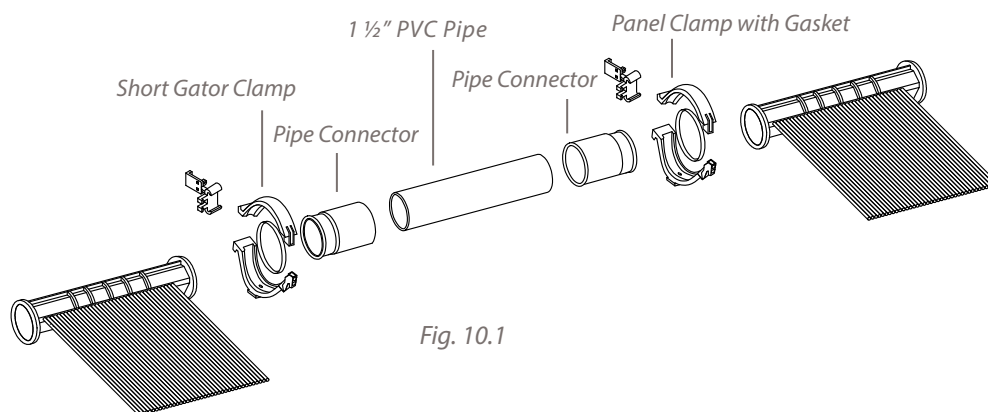

Fig. 10.1
1. Connect (4) of the pipe connectors to the headers of the collectors to be connected with a plastic panel clamp using the same procedures outlined in the section on connecting solar collectors together on page 10.
3. Cement the PVC pipe to the pipe connectors as shown in Fig. 10.1.